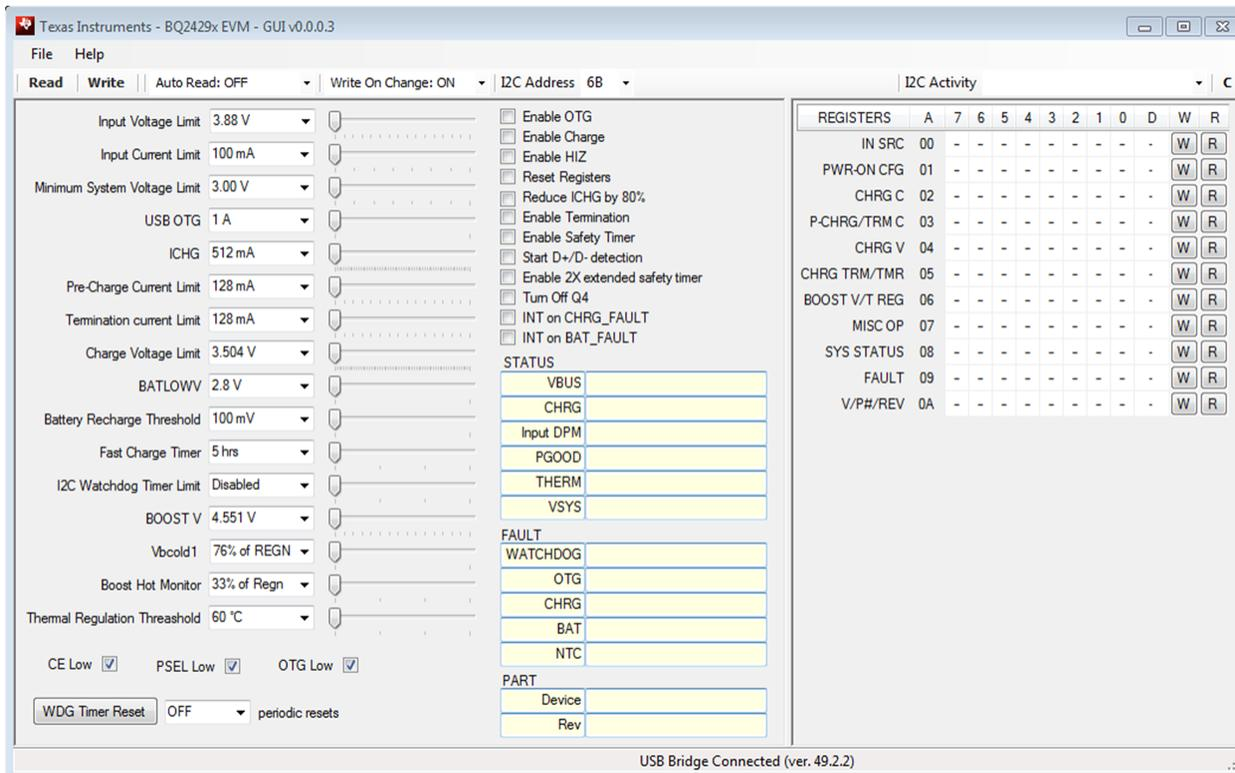

Figure 4. Main Window of the bq2429x Evaluation Software
2. Disable the watchdog timer if not using the **WDG Timer Reset** button (illustrated in Figure 4), so the programmed setting does not reset.
(I) Turn on the computer. Launch the bq2429x evaluation software. The main window of the software is shown in Figure 4.